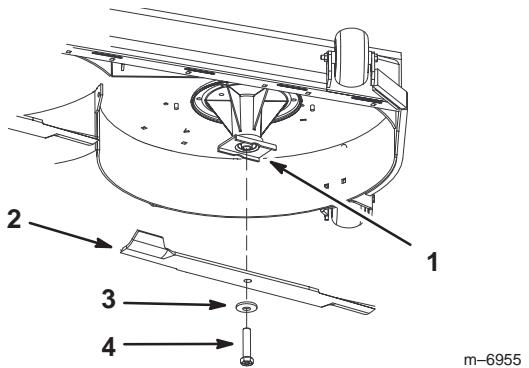

Figure 7
Important The sail part of the blade (i.e., the turned up section) must face the inside of the mower (Fig. 7).
1. Install the new blades to the spindles with a washer and blade bolt (Fig. 7).